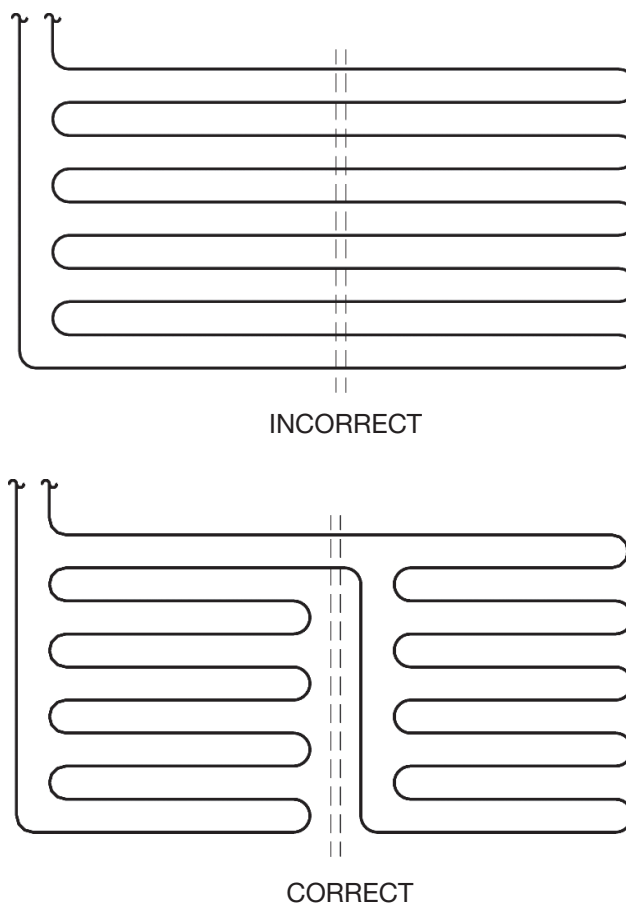

Figure 4-3 Minimize penetration of expansion joints
- Minimize penetration of expansion joints in concrete (Figure 4-1). Any tubing that passes through concrete expansion joints must be protected with a protection sleeve for a minimum of 6" (15cm) on both sides of the joint. Cross-sections of sleeving at expansion joints are provided in Figure 4-3 and Figure 4-4.